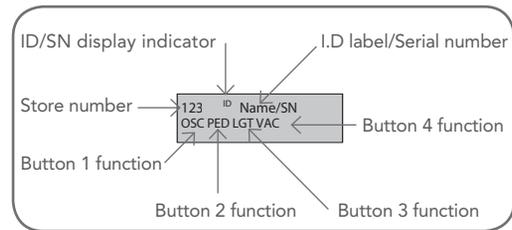

Fig 10.1
- Reprofilng is a simplified way of re-learning the travel characteristic of a previously setup Limit Switch travel installation. Re-profilng can be used when the travel characteristics of the gate(s) change due to mechanical adjustments etc. To initiate a re-profile, simply locate "MENU 10.3 Reprofile Travel", press SET and follow the prompts. The gate(s) will start to move and re-calculate force margins. The gate(s) can move between the open and close limit positions up to two (2) times (depending on the position of the gate(s) and the power up condition).
DCB-05V2 can store up to thirty (30) transmitters in its memory. Each transmitter can be allocated an alpha-numeric ID label up to eleven (11) characters in length and each button can be assigned to one of several control functions. The settings for a transmitter are represented in (Fig. 10.1). It shows the transmitter's store number, ID label or serial number and the functions assigned to each of its four buttons. To toggle between ID/SN display, press UP/DOWN with the cursor on the ID/SN indicator. The procedures below code, delete, replace, edit and copy transmitter records.